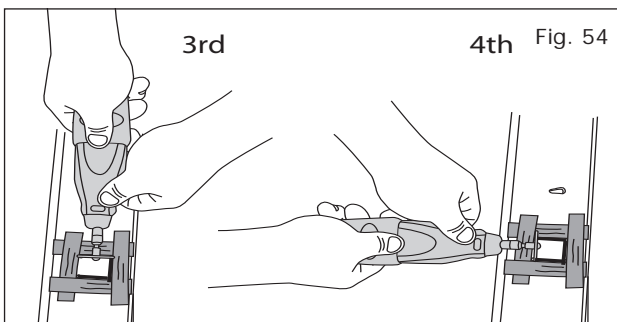

Fig. 54
- 59) Follow the remaining taped off lines until the cut-out is completely cut through. (Fig. 54)